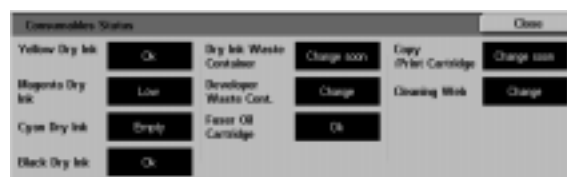

Figure 5: Consumables Status screen
- 2 Touch the **Consumables Status** icon to display the Consumables Status screen, as illustrated in Figure 5.